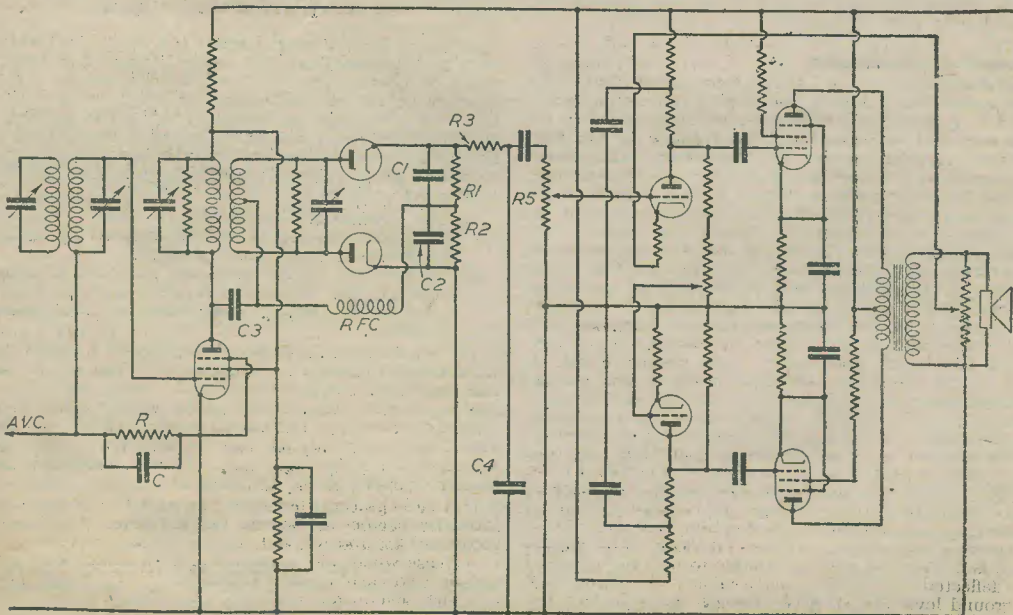

Fig. 1.—The complete circuit of a typical limiter, converter, A.F. and output stages.
Fig. 1 shows the complete circuit of a typical limiter, converter, audio frequency amplifier and output stages, which not only embodies all the necessary details to illustrate the points made in this article, but includes that part of a frequency-modulated receiver which differs from an amplitude-modulated receiver. Reference to Fig. 1 will show that the audio output from the frequency amplitude converter is taken through a pair of triodes arranged for phase splitting, the resistance R_3 and condenser C_4 being arranged as a filter to attenuate, to negligible proportions, any radio frequency that might otherwise appear at troublesome amplitude in the audio-frequency stages. The values for this filter are not particularly critical as long as the higher audio frequencies are not attenuated, unless, of course, the filter is intended to perform the additional office of de-emphasis. Suitable values for these components are 100,000 ohms and 50 to 100 pfd., or if it is desired to introduce de-emphasis the value of the condenser would be increased as necessary to conform with a degree of pre-emphasis used in the transmitter. It will be noted that a push-pull amplifier is shown using negative feed-back; the circuit used for the audio-frequency section has, of course, no direct connection with frequency modulation except that some high-
It is possible to introduce an interesting variation by substituting the phase-splitting arrangement shown at Fig. 1 for a pair of triodes in ordinary push-pull and rearrange the discriminator circuit so that a symmetrical output is obtained. It is merely necessary to remove the earth tap from the outer end of R_2 and place it at the junction between R_1 and R_2 ; this rearrangement results in a symmetrical output that can be used to feed the push-pull triodes. If de-emphasis is used with this rearranged system, it will be desirable to place a filter in each grid lead. This alternative arrangement appears at first sight to be preferable to the arrangement at Fig. 1, and surprise may be evinced that it has been selected for illustration in preference to the alternative. Given perfectly matched components, and a perfectly-designed receiver, there is much to be said for the alternative arrangement, but under less favourable conditions the arrangement illustrated is probably more satisfactory. One advantage is a gain in stability which in practice appears when one or other of the diode cathodes is connected direct to the earth line, instead of via the condenser potentiometer C_1, C_2 . A further advantage is readily apparent by reference to Fig. 1. The use of the centre-tap diode circuit may introduce undesirable lack of balance, if the increase of potential difference across one resistance is not sensibly equal to the decrease across the companion resistance under conditions of modulation; when the centre tap is not employed, the audio-frequency amplifier
(1) Disconnect the limiter bias resistance (R_1 at Fig. 1) at the earth end and insert a low reading milliammeter—if available, a 0-500 microammeter is usually most convenient; a large-scale type instrument is preferable. (Some frequency-modulated receivers are fitted with a jack or terminals and link, for this particular purpose.)
(2) Connect the signal generator between the grid of the frequency-changer valve and earth exactly as when lining up a normal superhet.
(3) Stop the oscillator section of the frequency changer from oscillating by any convenient means, e.g., earthing the grid.
(4) Set the signal generator to the unmodulated intermediate frequency and adjust I.F. transformers to